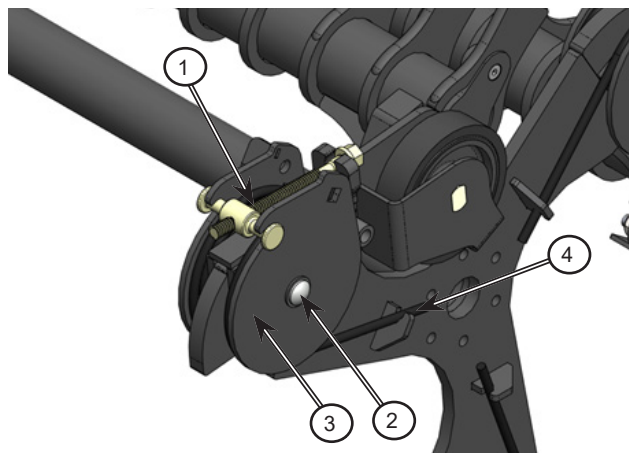

Figure 6.38: Remove the springs
8. Remove the tension bolt and bar (1), the pivot bolt (2), cover plates (3) and springs (4); see *Figure 6.38*.